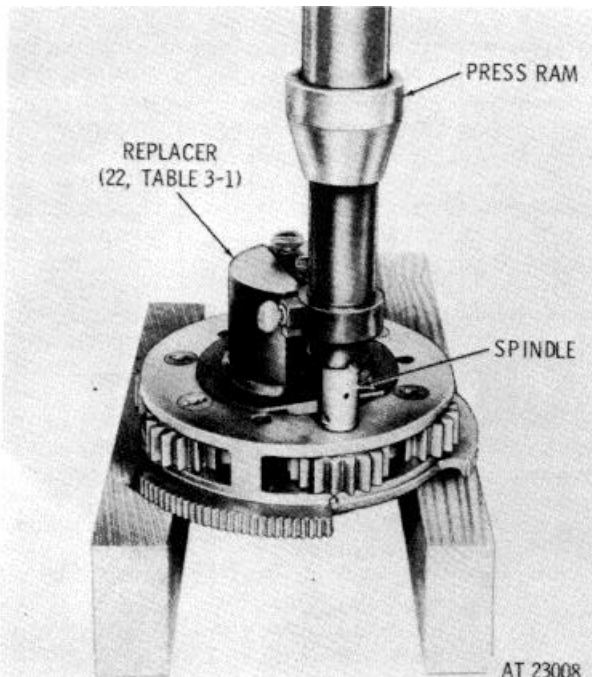

Figure 7-28. Installing spindle into reverse-range planetary carrier.
a. If the six pins (37) were removed, install new ones. Press the pins into the carrier, to 0.010 inch below the plug bore surface of carrier (38). Stake metal over each plug at two places.
g. Using spindle replacer (22, table 3-1), and indexing the spindle and replacer, install the spindle into the carrier. Press the spindle flush with, to 0.010 inch below, the spindle bore of the carrier. Refer to figure 7-28.